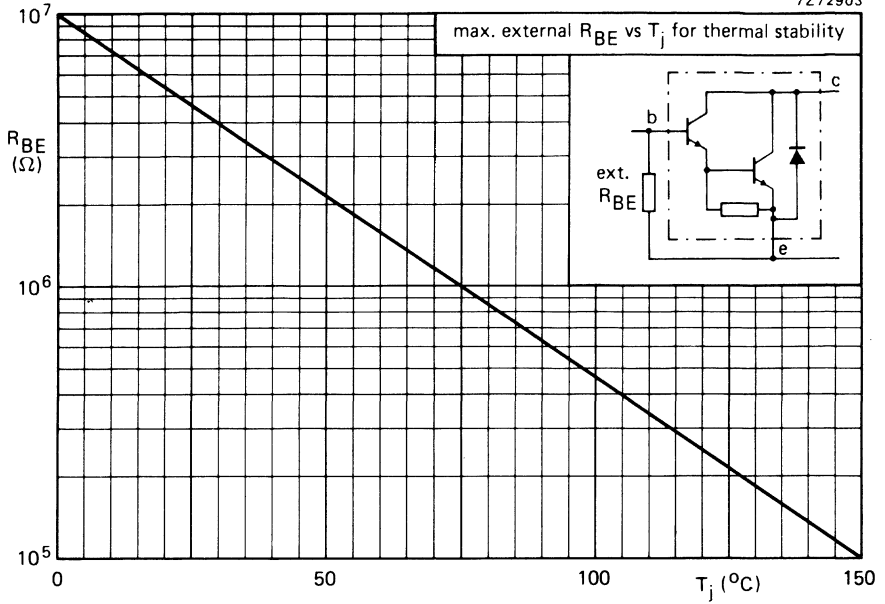

Fig. 5 Maximum values external R_{BE} as a function of junction temperature.
* External R_{BE} not to exceed value shown in Fig. 5.